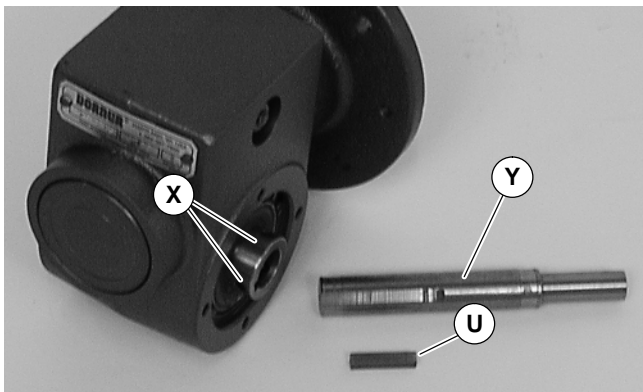

Figure 13
6. Loosen set screws (X of Figure 13) and remove gear reducer output shaft (Y) and key (U).
7. Insert the new shaft (Y of Figure 13) and key (U) into new gear reducer. Tighten set screws (X) to 35 in-lb (4 N-m).